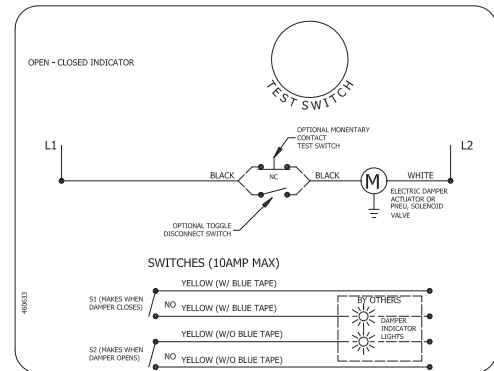

Figure 9: OCI
**OCI:** The OCI (open or closed indicator) option contains two single pole single throw switches used to indicate the damper blade position. The switches provide a positive open and closed signal and can be used in conjunction with remote indicator lights. Refer to **Figure 9** for wiring of the OCI option.